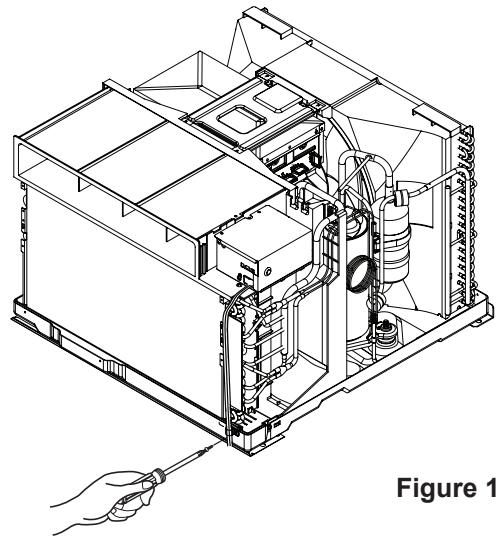

Figure 10
5. Remove the two screw of power cord clamber on the front of base pan. (See Figure 10)